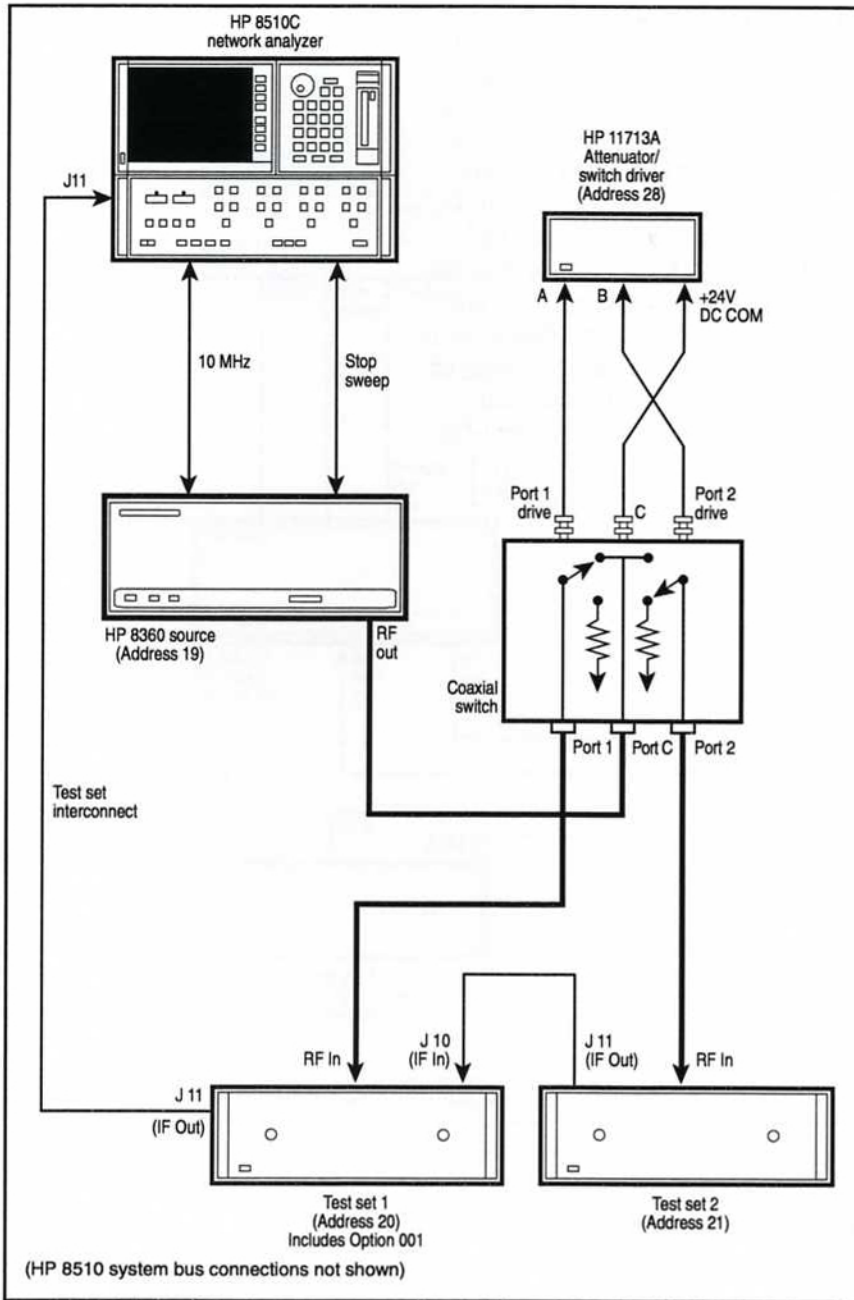
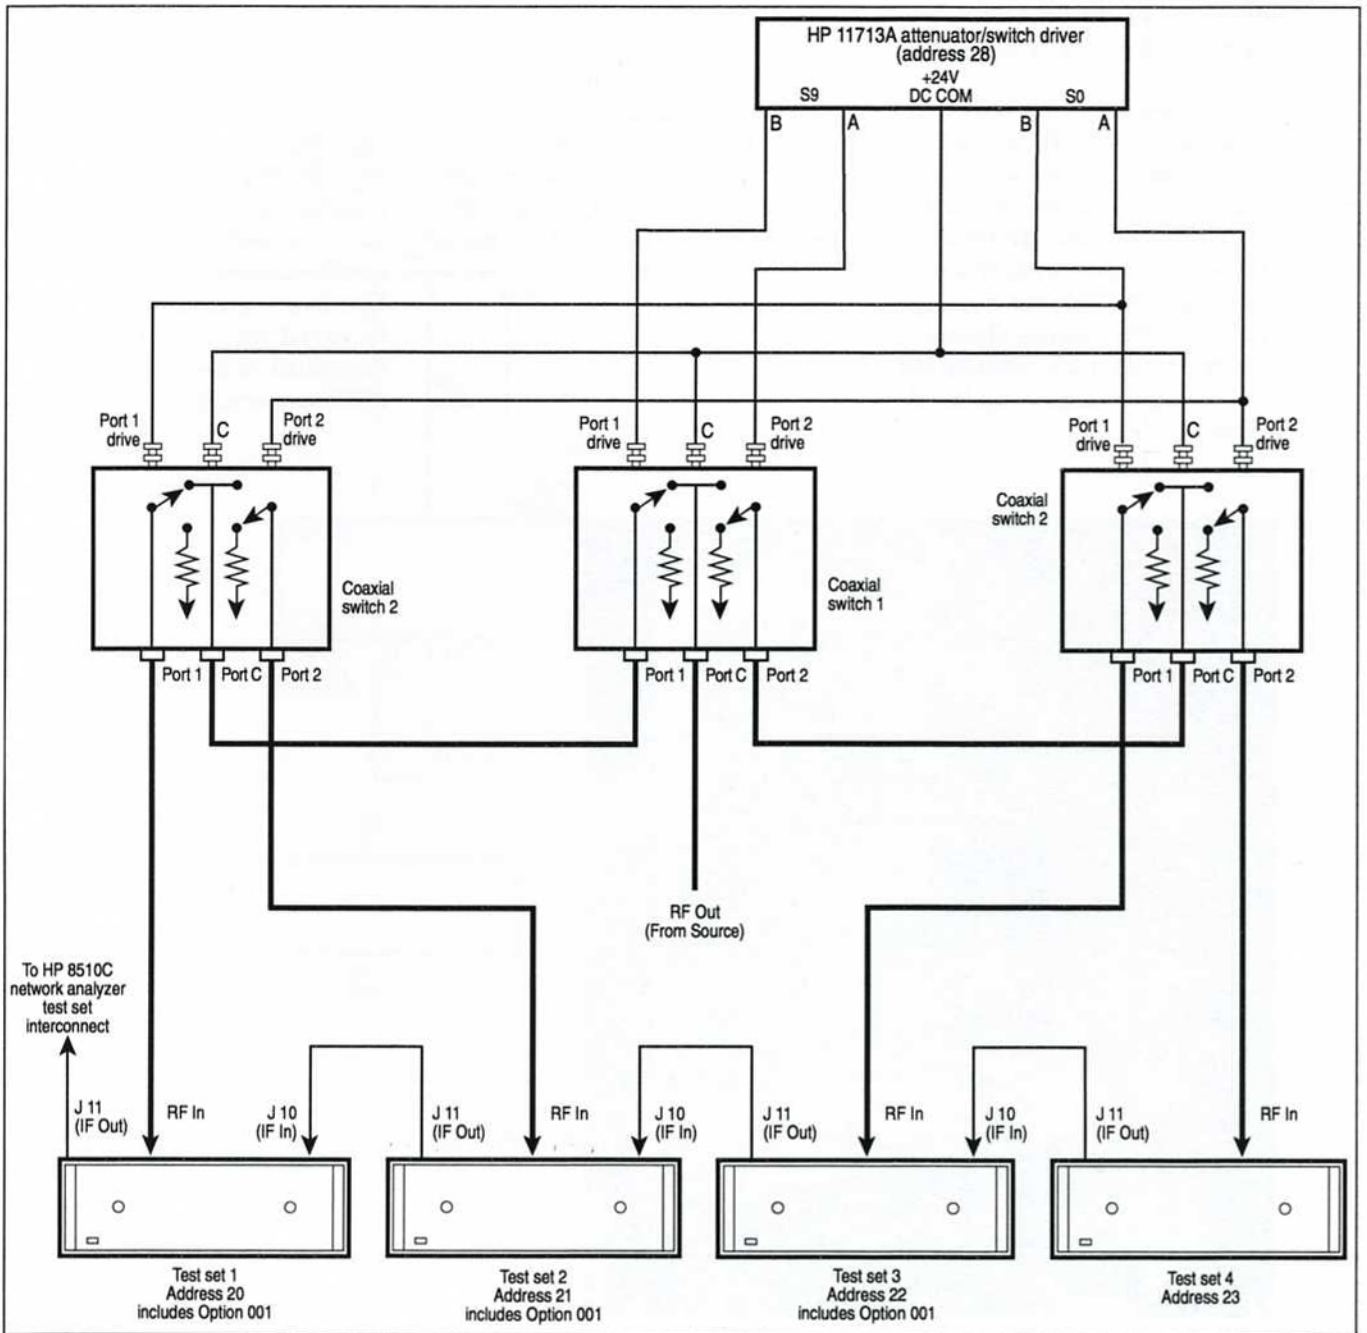

Figure 2. HP 8510 dual coaxial test set configuration.
Figure 3. RF and IF switching with four test sets using three SPDT switches.
In this section we describe how the RF and IF signals are switched with multiple test sets in the system, beginning with two test sets (see Figure 2).
The dual test set configuration can be easily extended to include up to four test sets. Figure 3 shows the configuration with four test sets in the system.
1. Connect the equipment as shown in Figure 2. If more than two test sets are used, see Figure 3. Be sure all instruments, including the test sets and the HP 11713A, are connected to the HP 8510 system interface.